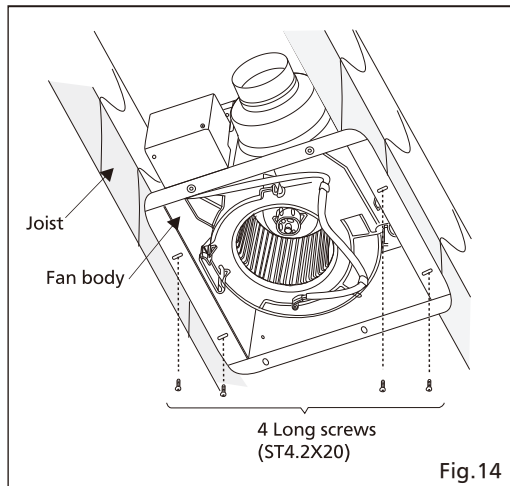

Fig.14
2. Secure 4 long screws (ST 4.2X20) at flange of frame. (Fig.14)